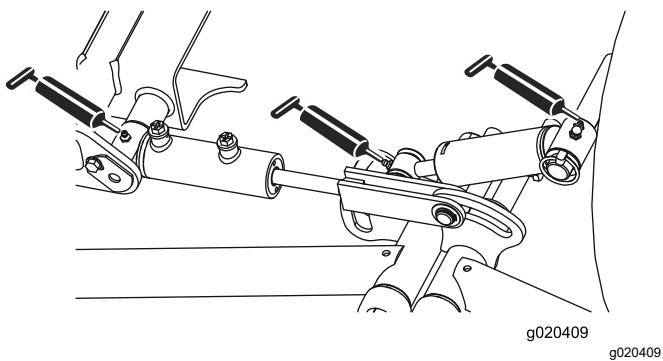

Figure 46
- Front lift-arm pivots and lift cylinders (3 each); refer to Figure 46.